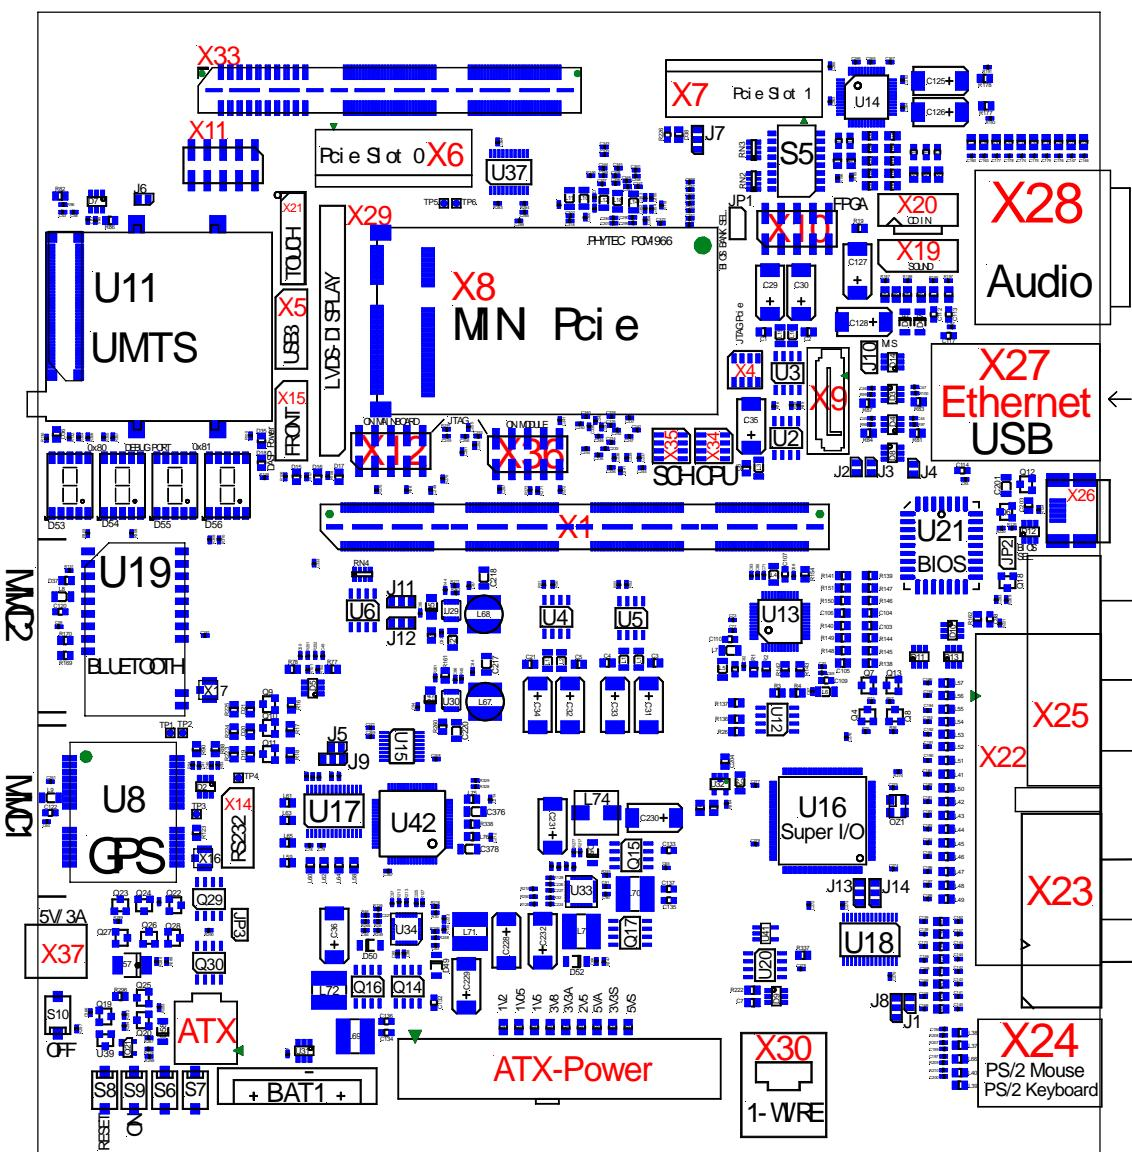

Figure 8: Carrier Board connector location top side
Table 7 lists all available connectors on the phyCORE-Z500P(T) Carrier Board. Figure 8: “Carrier Board connector location” highlights the location of each connector for easy identification.